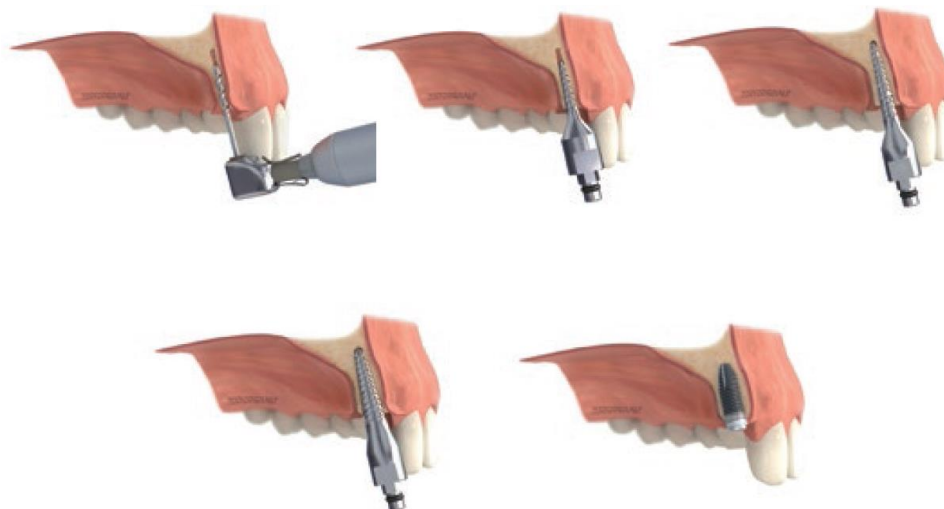

Figure 1: Steps 1, 2, 3, 4 and 7 of the sequence of using the expanders to create the socket through bone compaction.
A) Instructions for use. Socket due to bone compaction (Figure 1):